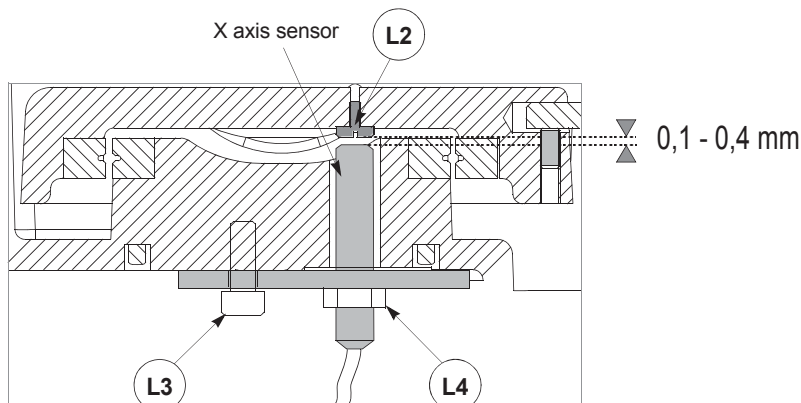

Fig. 141
- 6) fit the new sensor in position, tightening it until it almost touches the (L2) screw (fig. 141) thus securing it with the (L4) nut.